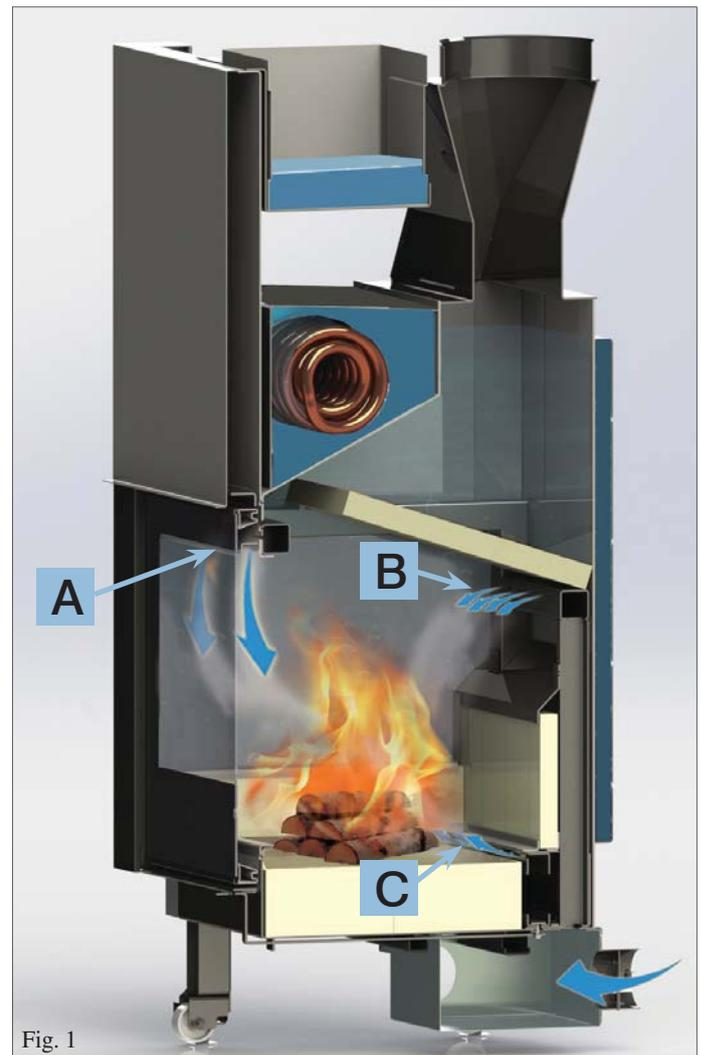

Fig. 1
**The primary combustion and glass-cleaning air (A)** enters from the top of the glass after being heated along its path (Fig. 1) and keeps the glass clean.
**The secondary or post-combustion air (B)** enters the combustion chamber through the holes in the bottom of the combustion chamber (Fig. 1).
**The "Turbo" air (C)** enters at the bottom of the combustion chamber at the level of the embers (Fig. 1) to speed up the lighting of the fireplace unit.